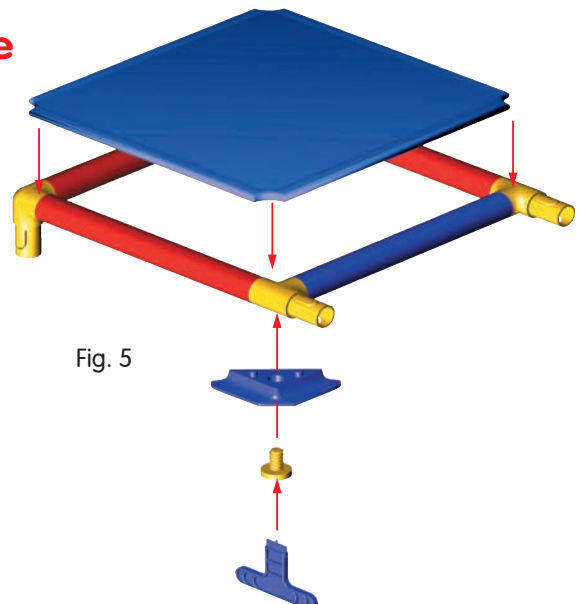

Fig. 5
(1) Use fixture and screw to fix square flat onto tube frame and then screw them together with T wrench as Fig. 5 shows.